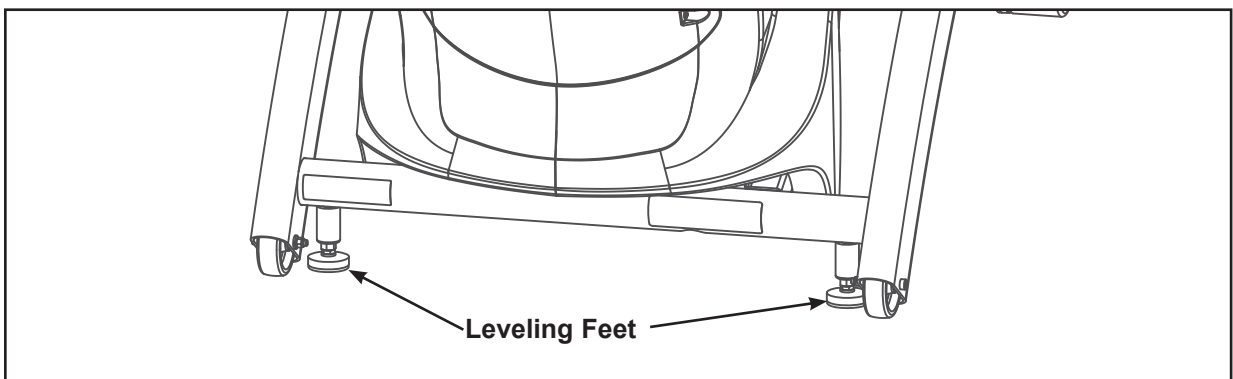

Figure 15
- A. Confirm unit is on a level surface. If not, use a 9/16" open-end wrench to adjust the leveling feet up or down. See Figure 15.